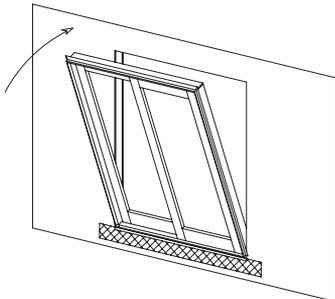

Figure 7
8. Insert and center the door in the rough opening. When doing so, tilt the door back so that the sill can be set into the opening and onto the sealant and not scrape it off the sill pan (see figure 7).